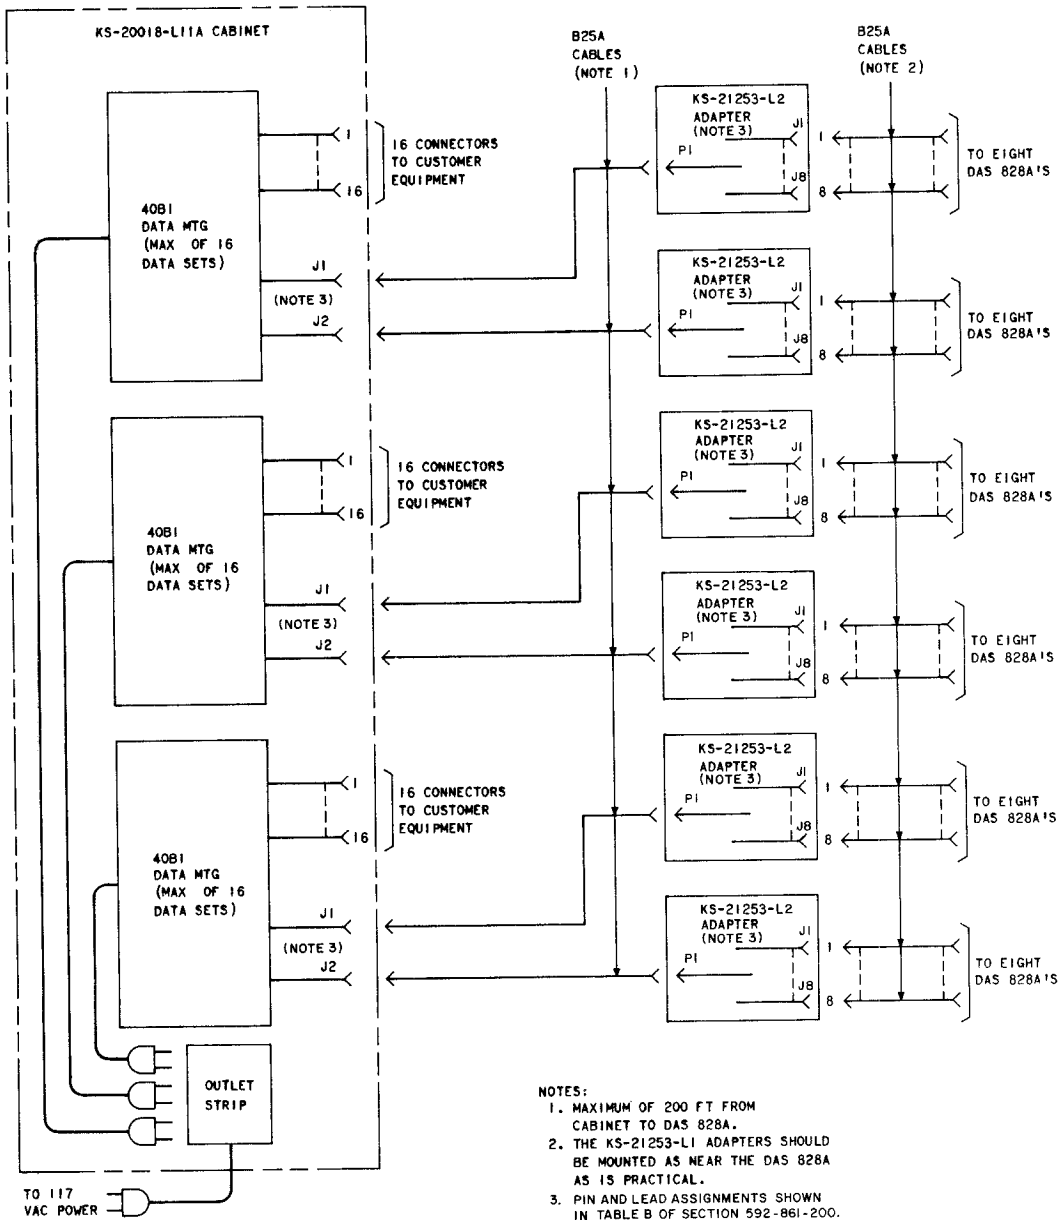

Fig. 6—Data Station Using DAS 828A
**4.02** Refer to Fig. 6 for a connection diagram of the data station used with data auxiliary set (DAS) 828A. Table B provides pin and lead assignments for the cables shown in Fig. 6.